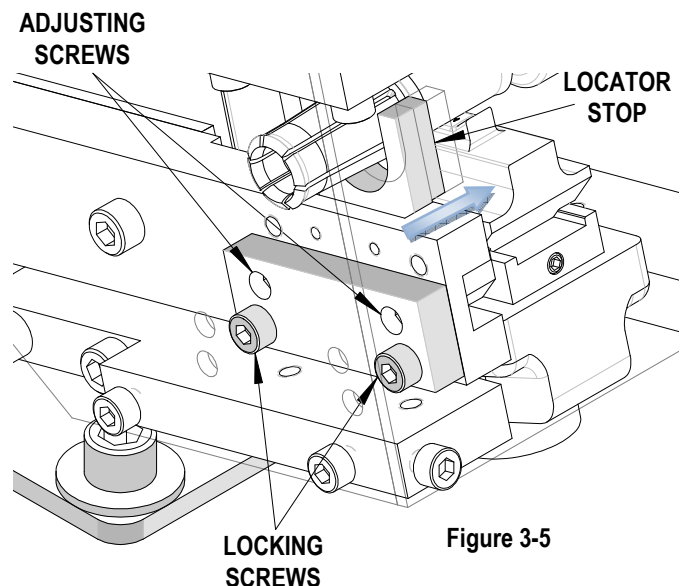

Figure 3-5
1. Insert a 4.0mm socket style wrench thru the holes provided in the safety guards, and loosen the two locking screws. Do not remove them. See Figure 3-5.